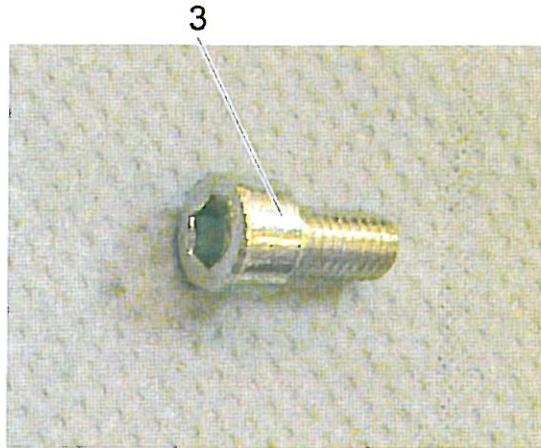

Figure 9
5. Apply Loctite 243 to four screws (item 3). See Figure 9.
9. Apply Loctite 243 to five screws (item 3). See Figure 9.
10. Place the vibration isolator (item 2) onto the adaptor plate (item 1). Hold the vibration isolator (item 2) in that position with one hand and attach the five screws (item 3) that were prepared with Loctite 243 in the last working step. Tighten up the five screws (item 3) to the specified tightening torque, starting with the screw in the middle and proceeding cross-wise.